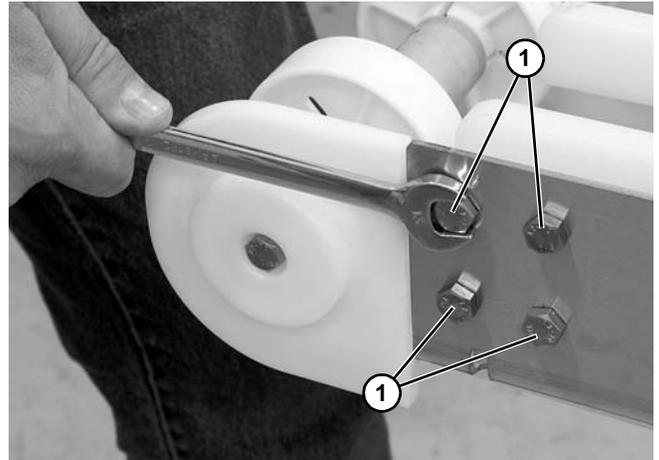

Figure 50
- Remove the four headplate bolts (**Figure 50, item 1**) on both sides of the conveyor.